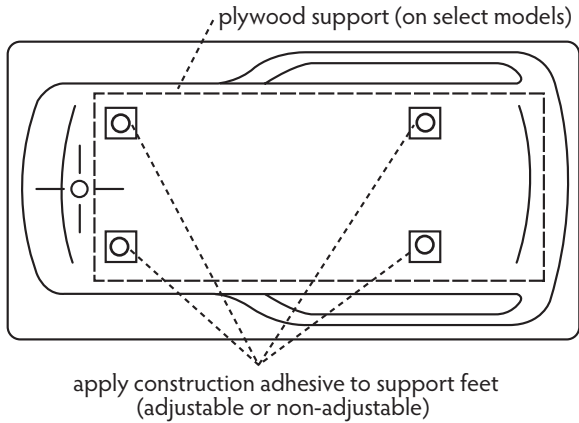

figure 1
1. Bathtub is not hanging from the rim. Bath must be supported from the floor (See Figure 1, Page 4.)
3. Apply a generous amount of construction adhesive to the bottom of the support feet. Set the bath in the desired location. (figure 1)
2. Apply a generous amount of construction adhesive to the bottom of the plywood. Set the bath in the desired location. (figure 1)